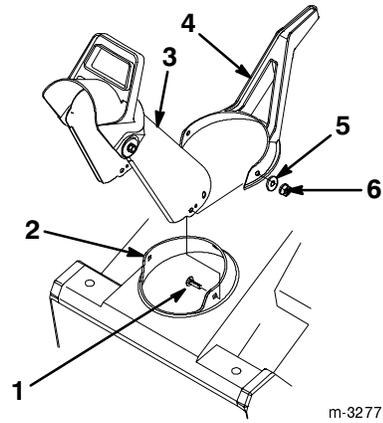

Figure 6
1. Place the chute handle over the chute ring (Fig. 6).
2. Insert the discharge chute between the chute ring and the chute handle. (Fig. 6).